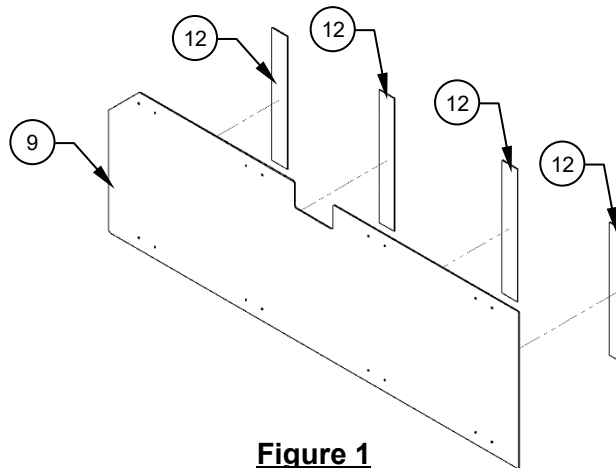

Figure 1
1. Make the aircraft ready for maintenance. Gain access to the baggage compartment. Reference Figure 1.
3. Locate the AFT Panel, Assy, (Item 9), so that it is centered and clears all aircraft structure on the AFT bulkhead. Transfer 16x hole locations from the AFT Panel, Assy, (Item 9), to the baggage AFT Bulkhead with a permanent marker. Reference Figure 1.